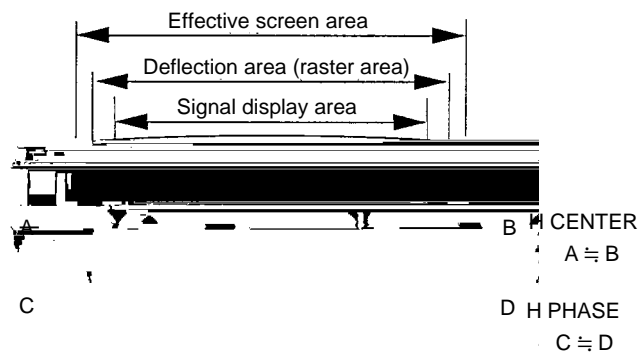

Fig. 1-6
7. Adjust the H CENTER data so that the raster is position just in the center of the screen (so that $A \cong B$). (Fig. 1-6)